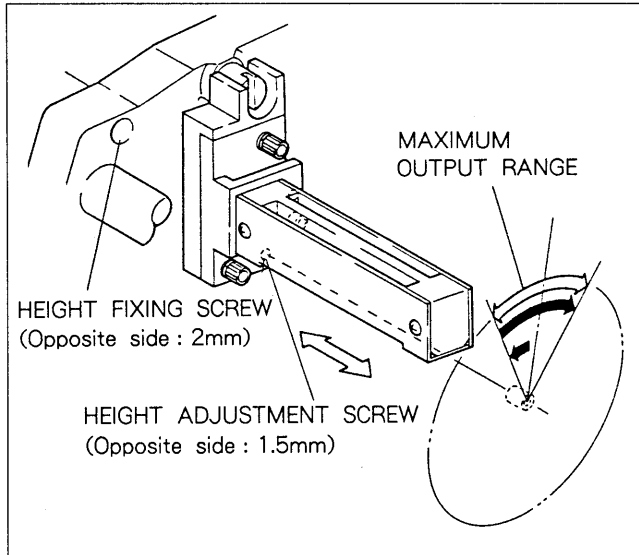

Fig. 9-6-4. Audio PB Head Height Adjustment
(2) Loosen the height fixing screw shown in Fig. 9-6-4.
(3) Turn the height adjustment screw in the counterclockwise direction so that the CH-2 (DA. CH-8) output is zero. Turn the height adjustment screw gradually in the clockwise direction until the CH-1 (DA. CH-1) output becomes the maximum, and check the maximum output range.
(4) Set the height adjustment screw in the middle of the maximum output range.